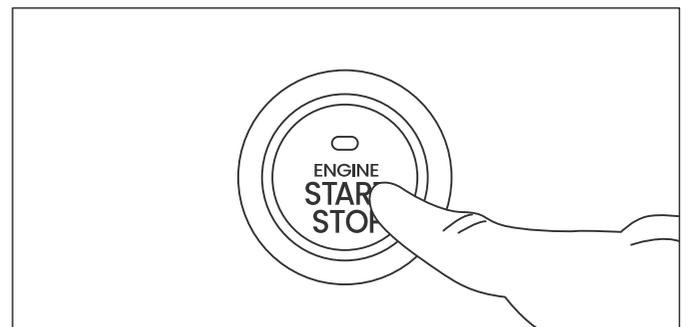

Fig.15
- (2) **Electric Start:** Press the start up button down for 1-3 seconds to start the generator (see **Fig.15**).